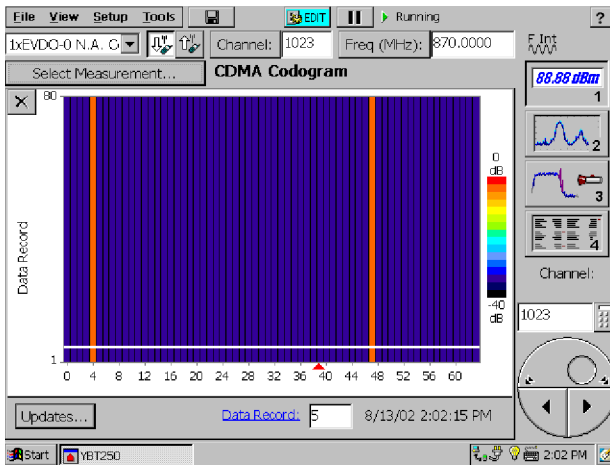

Figure 3-57: 1xEV-DO codogram display
5. Tap **Codogram**. See Figure 3-57.